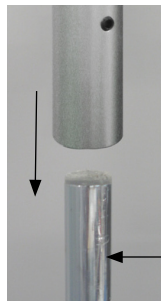

Figure 7a
- 3a. Re-secure the **LCD HANDLE** by rotating it clockwise as shown in **Figure 7a**.